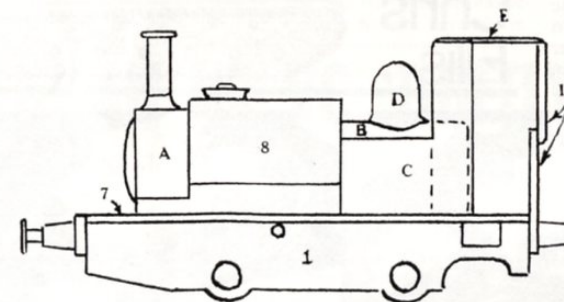
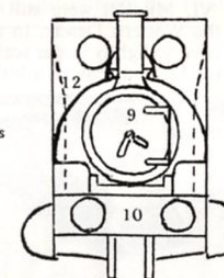

Fig. 1
Fig. 2
Figures 1 and 2 show drawings (actual size) of the model. Letters have been used to denote parts made from sprue or 20 thou plastic card (black for choice); the numbers are those used for parts in the saddle tank kit. The footplate (7) is first cut to size, working from a centre line as an aid to symmetry. Tool boxes, locating stubs for couplings and 4.5 mm strips from either side were carefully removed. All small projections were filed down flush with the underside. The footplate was then shortened to 58 mm by removing a strip at the rear only, taking care to keep corners square.
The two halves of the boiler (8, 8A) were now cemented together and when thoroughly dry, the chimney, filler cap and dome were removed with a new blade in the craft knife. Cuts were made at a slant, from each side, rather than going straight across. Front and rear sections of the boiler were then removed to give the shape shown in Fig 1. The front lug was retained with a small section of plastic above it to
The rear of the boiler (B) was again made from a strip of plastic card bent into a circle of 12 mm diameter and cemented. Parts A and B could, of course, be made instead from a suitable length of plastic tubing, eg. from a doctor's disposable syringe. The front of the cab is produced from part 12 as follows. The firebox is sawn off and a centre section 6 mm wide is removed from the plating. The two halves are then cemented together, squared at the top, and the joint strengthened by cementing on the firebox, reduced in length by half as shown in Fig 1. The rear of the cab was similarly made from part 13. As well as removing a 5 mm central section, a horizontal cut was made just above the central row of rivets so that the characteristic 'step' could be produced by overlapping (see Fig 1). Some additional filing was also required to give the shape shown by the dotted lines in Fig 2.
The Tallyllyn No 1 chimney does not taper as does the Airfix part, so a little work with a file is required at the top to produce the desired effect. The chimney and filler cap are cemented in place as shown in Fig 1. The dome (D) was shaped up from a piece of sprue.